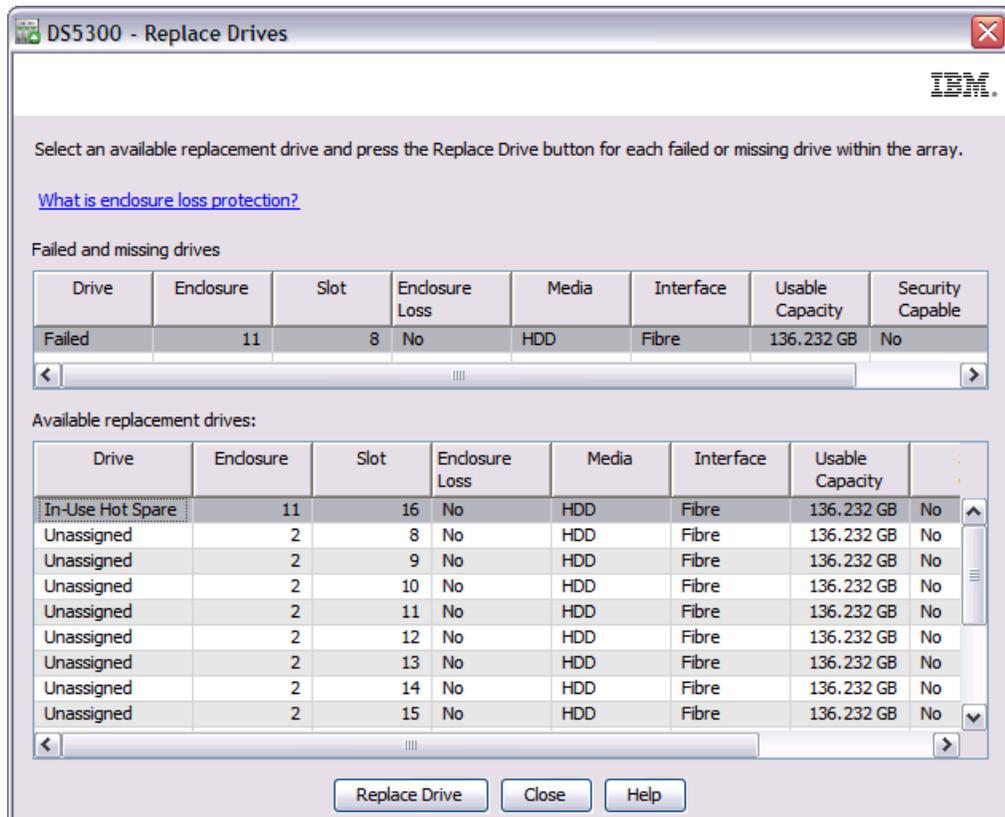

Figure 3-7 Replace drive
3. Before a failed drive is replaced with a new drive, the hot spare drive can be selected as replacement drive, and no data copyback occurs, as shown in Figure 3-7.